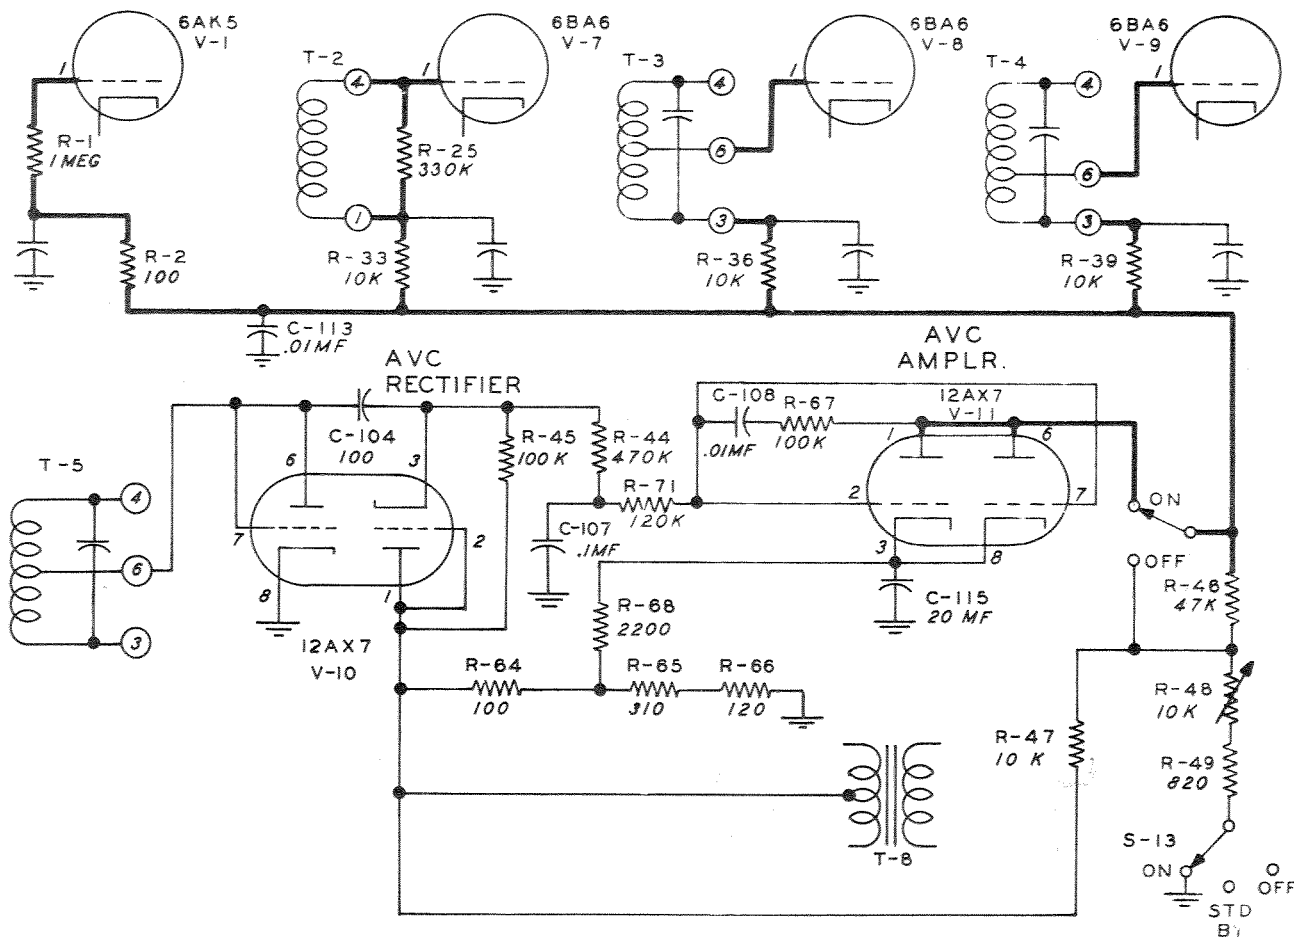

Figure 4-4 AVC Circuit
4.2.11. AUTOMATIC VOLUME CONTROL. - The problem of blocking due to strong signals or heavy static is eliminated by the use of an amplified AVC system and a low impedance AVC line. Refer to figure 4-4. The second triode section of V-110 is used as an AVC rectifier to produce the control voltage for the AVC amplifier tube V-111 which is a dual triode with both sections tied in parallel. The AVC voltage applied to the grids of the controlled tubes is produced by the voltage drop across resistor R-146 when plate current flows through the AVC amplifier tube V-111. Plate voltage for V-111 is obtained from the voltage drop across resistors R-164, R-165 and R-166 which are in series with the center tap of the power transformer to ground. V-111 will not draw plate current, however, with no signal input to the receiver because of approximately 11 volts of bias placed upon its grid by the voltage drop through R-164. This bias voltage for V-111 is taken from the end of R-145 through which the rectified carrier flows in opposition to the bias voltage. Thus, when the rectified carrier becomes strong enough to overcome the bias voltage on V-111, V-111 will draw plate current and produce a voltage drop across R-146 thereby producing AVC voltage in proportion to the strength of the received signal. The bias on the grid of V-111 is high enough to produce adequate delay in the generation of AVC voltage to allow the receiver to function at full sensitivity on weak signals. Resistors R-144 and capacitor C-207 form the time constant in the AVC circuit. R-171, C-208, and R-167 are used in a degenerative circuit to prevent the AVC amplifier tube from responding to low audio frequencies. The AVC is turned off by opening the plate circuit of the AVC amplifier tube V-111. Tubes controlled by the AVC bias include V-101, the r-f amplifier, and V-107, V-108 and V-109 the 500 kc i-f amplifier tubes. Connections are provided at the rear of the chassis so that the current drawn by V-111 can be measured and the AVC systems of two or three receivers may be tied together.